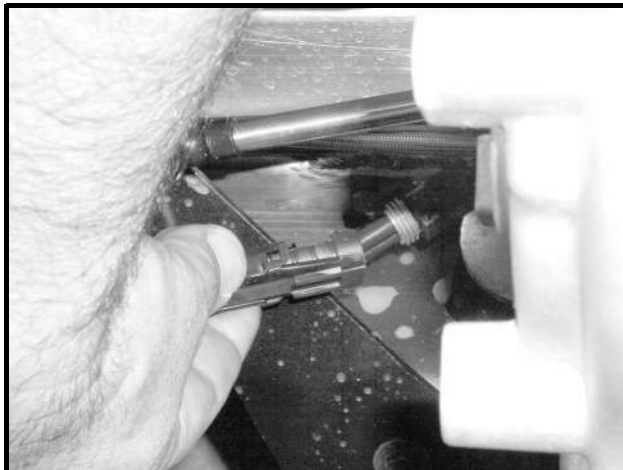

Figure 11b-21 Neutral Switch Two-Pin Connector
4. Disconnect the two-pin connector between the fan and the wire harness (**Figure 11b-19, Page 11b-23**).
4. Disconnect the two-pin connector between the neutral switch and the wire harness (**Figure 11b-21, Page 11b-26**).